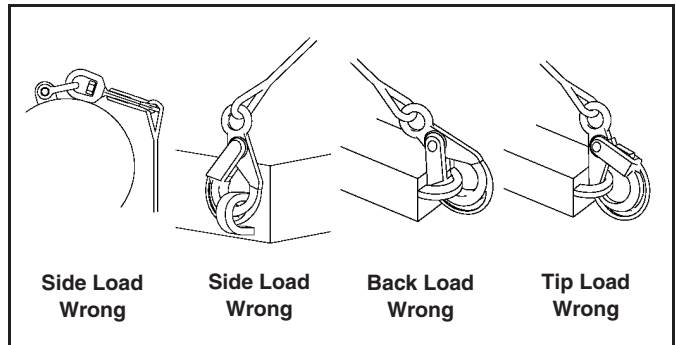

FIGURE 2
- Never side load, back load or tip load a hook. Side loading, back loading and tip loading are conditions that damage and reduce the capacity of the hook (See Figure 2).